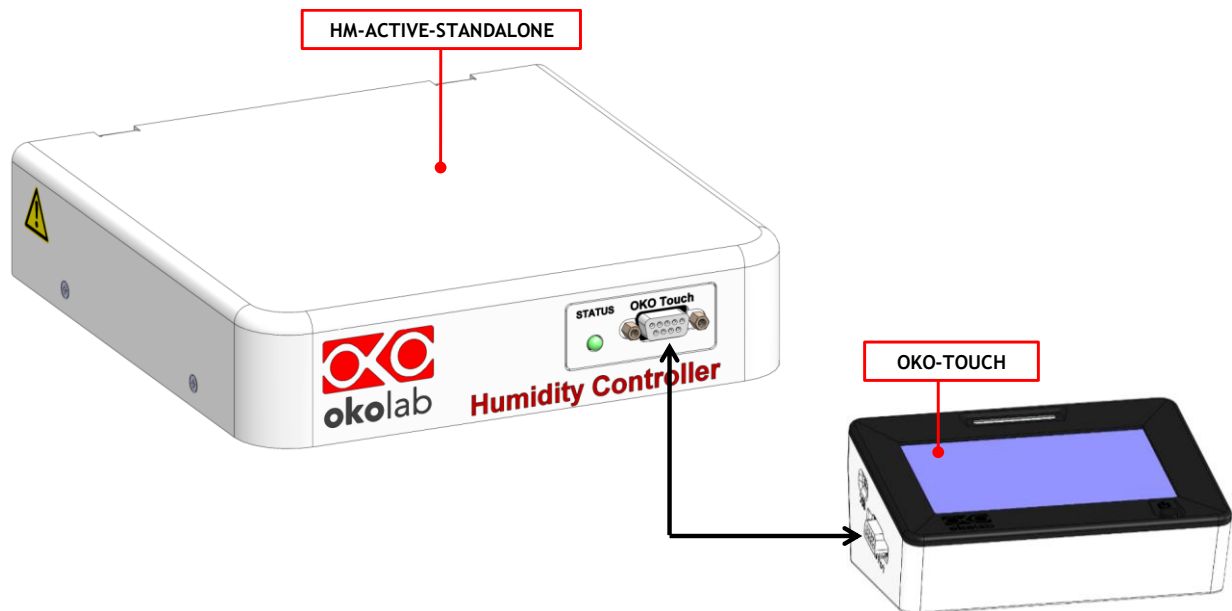

Figure 14. OKO-TOUCH Connection.
7. Connect OKO-TOUCH to HM-ACTIVE-STANDALONE with the RS232 serial cable as illustrated in Figure 14.